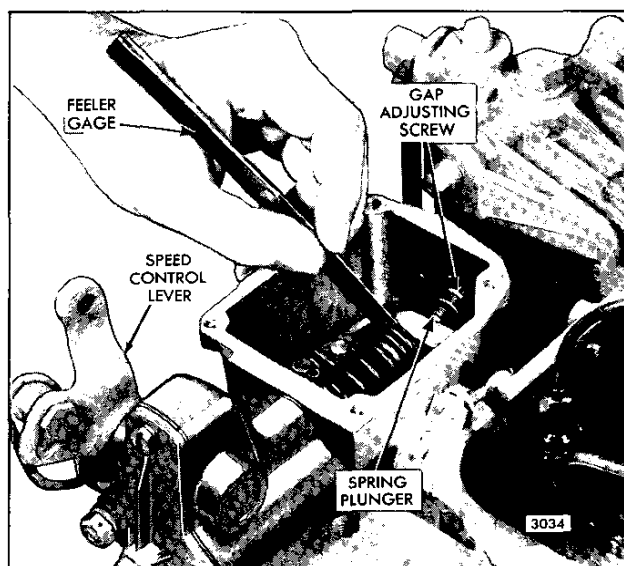

Fig. 1 – Checking Governor Gap
4. Place the speed control lever in the maximum speed position (Fig. 1).
5. Insert a .006" feeler gage between the spring plunger and the plunger guide (Fig. 1). If required, loosen the locknut and turn the gap adjusting screw in or out until a slight drag is noted on the feeler gage.